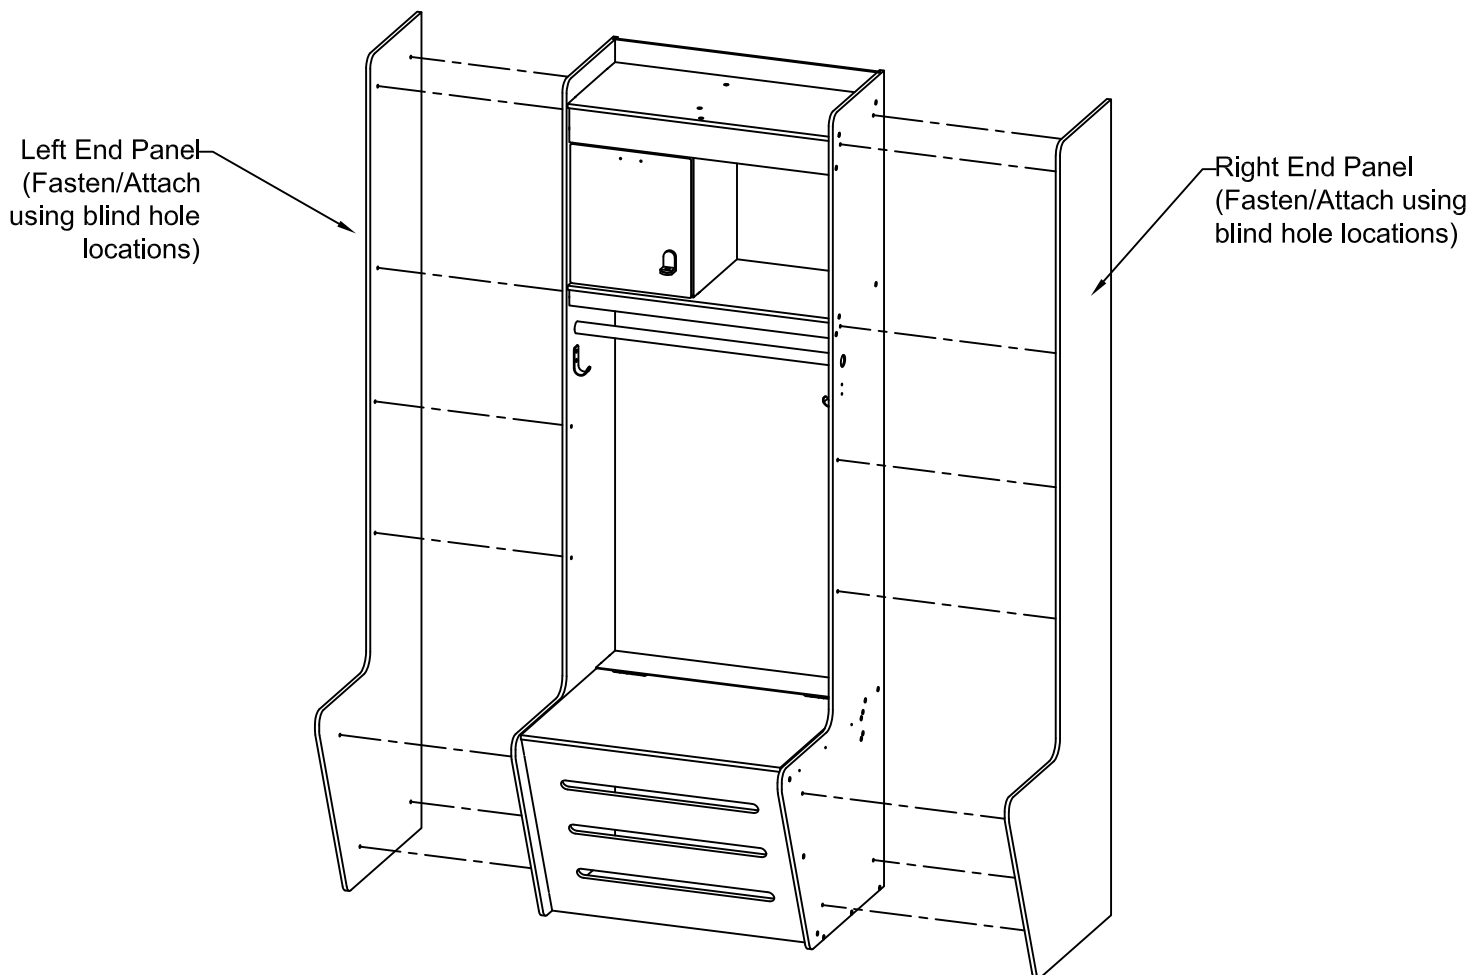

Figure 5.1: End Panel Assembly
7.2 Place the end panel against the exposed outer side of locker. Line up the blind holes with the holes on the locker. See figure 5.1.